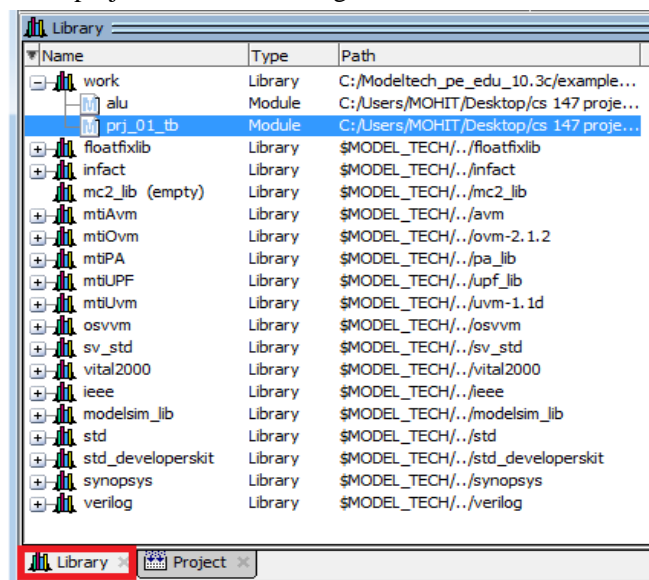

Figure 4.6 Test bench code run
- 5) Then click on Library tab and navigate to work folder and double click on test bench file named as 'proj_01tb.v' shown in figure 4.6.